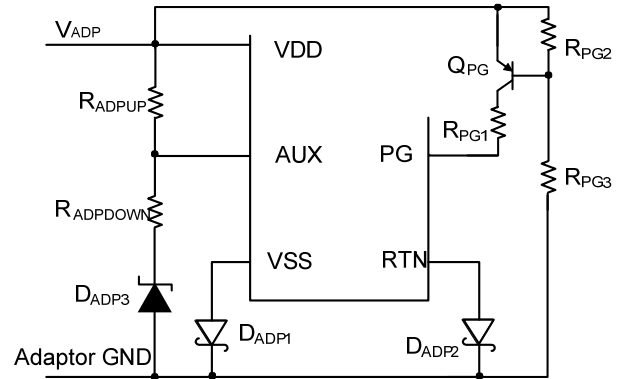

Figure 6: Wall Adaptor Detection Circuit
When an auxiliary power source, such as a wall power adapter, is used to power the device, the resistor dividers  $R_{ADPUP}$ ,  $R_{ADPDOWN}$ , and  $D_{ADP3}$  should be chosen to satisfy Equation (1) for correct wall power adaptor detection (see Figure 6).
The MP8008L enables wall adapter detection at VDD = 11.5V. If an adapter power with a lower voltage rating (i.e.: 10V) is used to power the converter, an external PG pull-up resistor is necessary to enable the downstream DC/DC converter. Refer to Figure 6 and the following Power Good (PG) section for more detail.
If an adapter power lower than 11.5V is connected to supply the converter, the PG function is unable to work with such a low input. An external PG pull-up circuit is recommended (see Figure 6). Typically,  $Q_{PG}$  needs a  $V_{CE}$  voltage higher than 100V (i.e.: BSS63LT1). Choose  $R_{PG2}$  = 7.5k $\Omega$  and  $R_{PG3}$  = 100k $\Omega$  for a 12V adapter with some margin of adapter regulation. Choose  $R_{PG1}$  = 100k $\Omega$  to limit the PG sink current below 0.6mA when VDD is high.